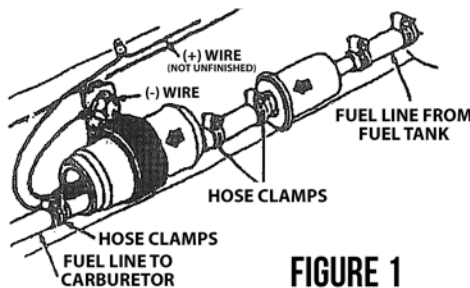

FIGURE 1
3. Select a mounting location on the frame or other firm body member no more than 24" above the bottom of the fuel tank, away from all moving parts, exhaust system, and excessive road splash. Do not mount the pump in the trunk. It is imperative that a good quality in-line filter be used on the inlet side of the pump (between the fuel tank and the pump). (See Fig. 1). A new filter is supplied with this pump.